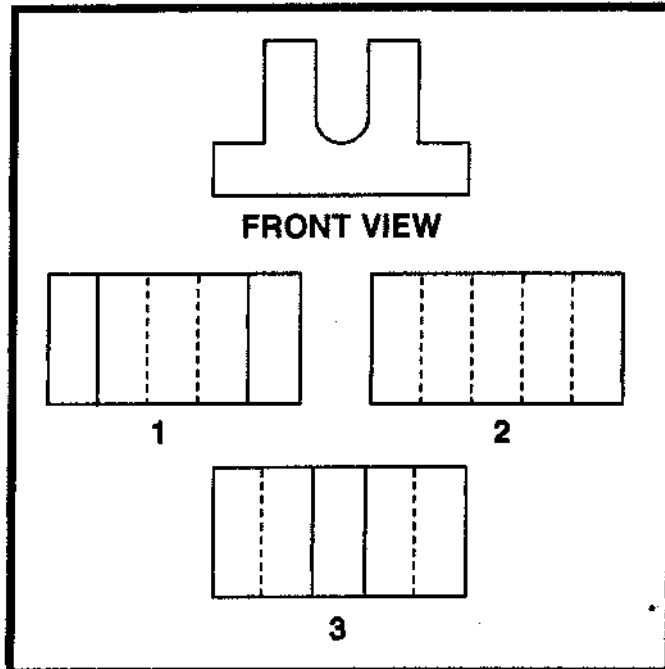

Fig. 3.1. Object Views.
2. (Refer to figure 3.1) Identify the bottom view of the object shown.
6. (1) Schematic diagrams indicate the location of individual components in the aircraft.